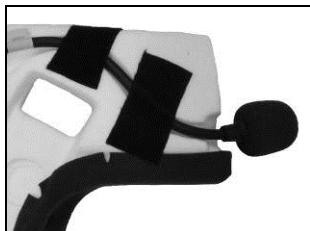
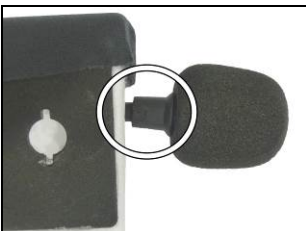

Fig. 42
Fig. 43
- Take the polystyrene cheek pad (left side) and position the microphone in the special housing, as illustrated in Fig. 42, being careful that the side of the microphone support with the letter "n" is facing towards the inside of the helmet (Fig. 43).
- Secure the microphone to the cheek pad using the "microphone securing stickers", see Fig. 42.